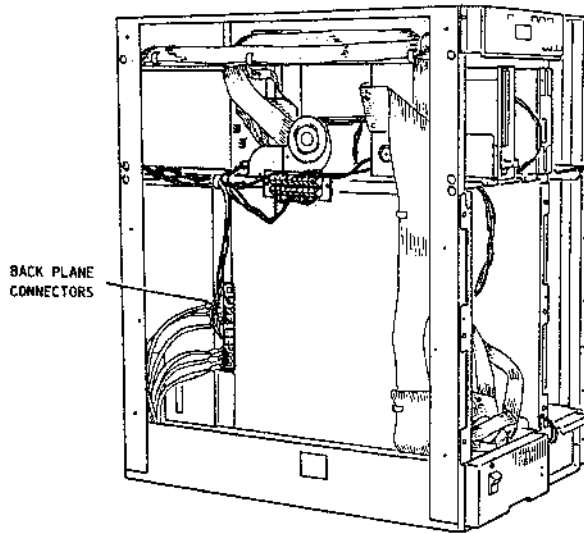
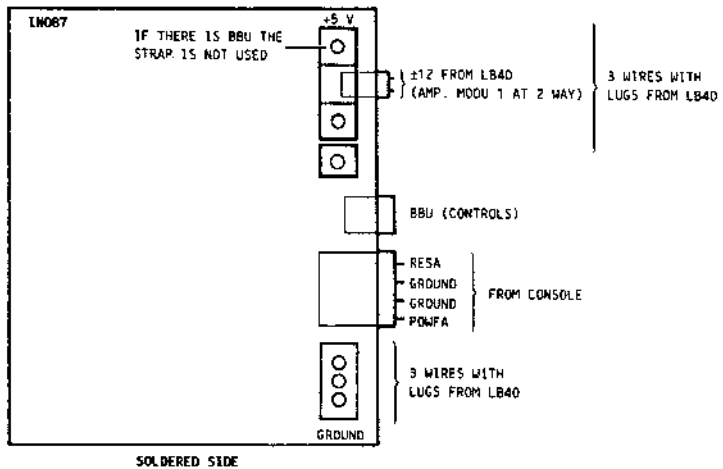

Fig. 2-22 Position of Back Plane Connectors in System Structure
Fig. 2-23 Rear View of Back Plane and Connectors
- Disconnect the three, red +5V power cables and the three black cables (see figure 2-23) on the left side of the SB0 (see figure 2-22)
- Remove the +/- 12V line connector beside the power cables (see figure 2-23)
- Disconnect connector of the RESET and POWFA signals beside the power supply cables (see figure 2-23)